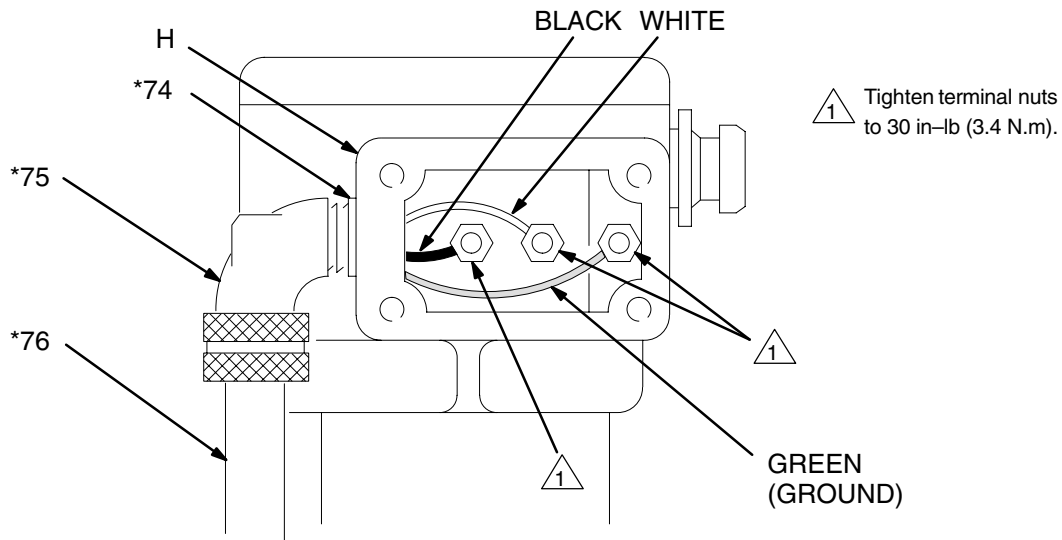

Fig. 4
1. Remove the cover from the electrical box (H) at the back of the heater (67). Screw the bushing (74\*) into the inlet of the electrical box. Install the cord grip elbow (75\*) in the bushing. See Fig. 4.
2. Thread the cord (76\*) through the elbow (75\*) and into the electrical box. Attach the black lead to the leftmost terminal, the white lead to the center terminal, and the green ground wire to the rightmost terminal. Tighten all terminal nuts to 30 in-lb (3.4 N.m). Tighten the nut on the cord grip elbow (75\*) to secure the cord. See Fig. 4.